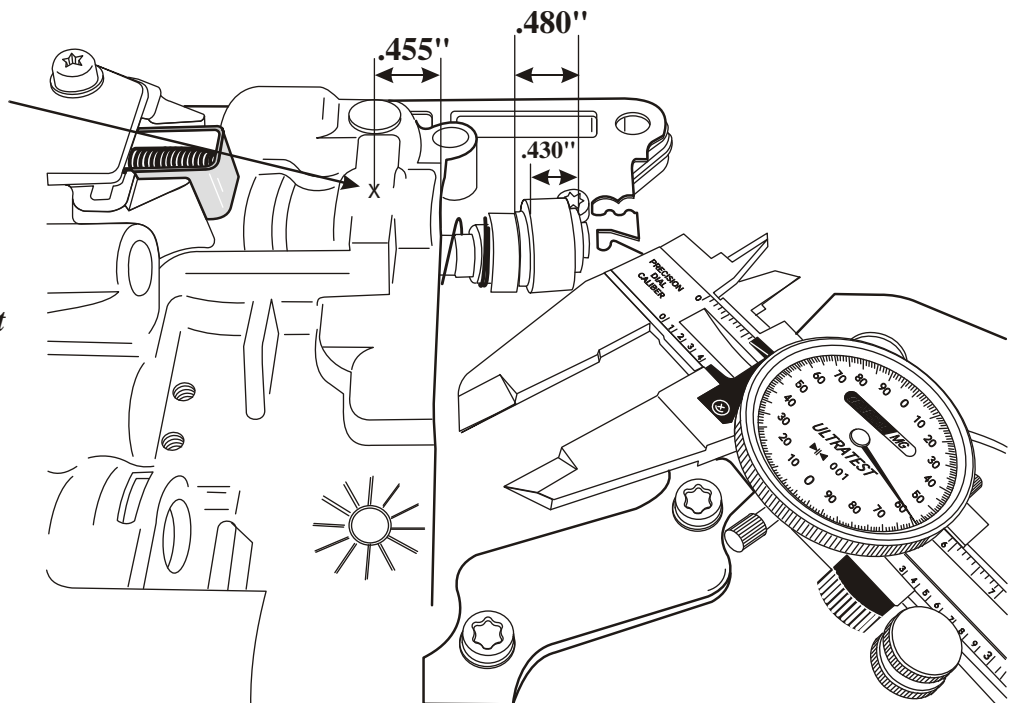

Figure 2
CORRECTION: Drill a .040" exhaust hole through the exterior casting into the decrease pressure circuit by following the “example” steps below and illustrated in Figure 2. A controlled venting of this oil will allow a more rapid line rise response to throttle opening, improving the shift characteristics of the transmission. It also will allow a more desirable top end line pressure reading as well as a slight increase in the converter clutch apply pressure.
Step 1. Measure the overall length of the plug (.480") as seen with the example in Figure 2.
Step 2. Measure the length of the plug minus one shoulder (.430") as seen with the example in Figure 2.
Step 3. The difference between the two readings is .050". By dividing that number in half (.025") and adding it to the figure acquired in step 2 (.430"), the depth from the edge of the bore to the decrease circuit can be marked for drilling on the top side of casting, approximately .455", also shown in Figure 2.